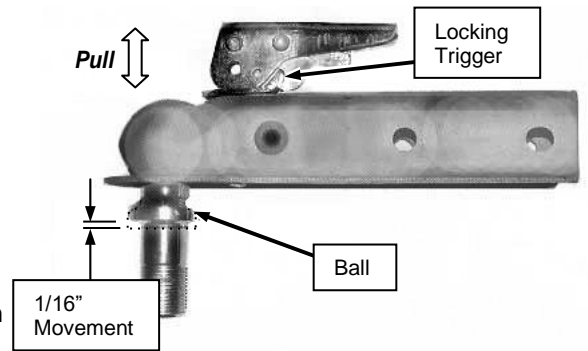

Figure 33
- Place the proper size ball in the socket of the coupler and close the latch assembly (**Figure 33**). Verify that the locking trigger is properly engaged in its detent.